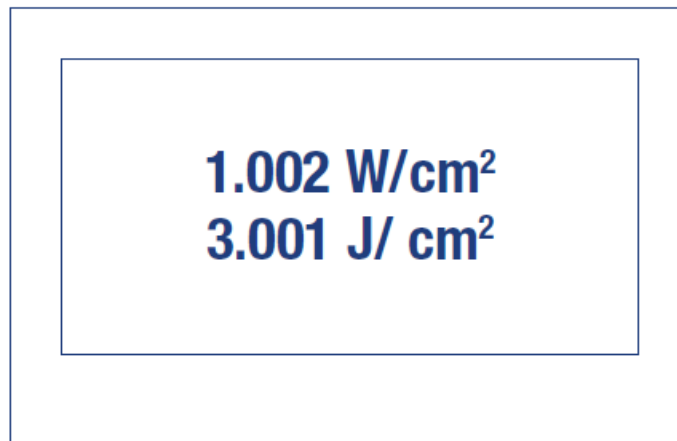

Figure 3 "Data Mode" with Detector Connected - Integration ON
- If the measured quantity can be integrated over time, integration can be initiated by pressing the Int key. The integrated value is displayed in the space below the instantaneous measurement value (Figure 3).